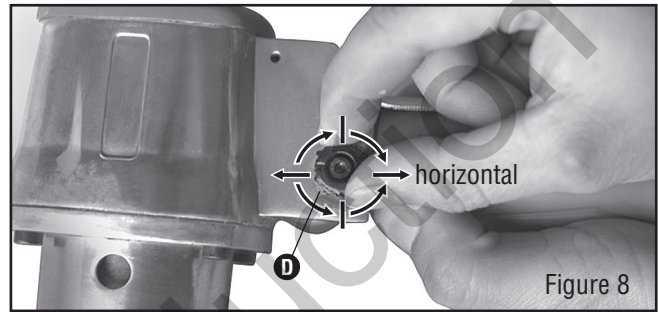

Figure 8
**NOTE** This tool features an air regulating knob (D). The speed can be adjusted by turning the knob either clockwise or counterclockwise. The maximum tool speed can be obtained when the concave line on the knob is pointing at the horizontal. (See Figure 8)
**NOTE** Use the wrench (H) to remove the sanding pad by holding the wrench on the flats of the bearing seat while turning the sanding pad counterclockwise.